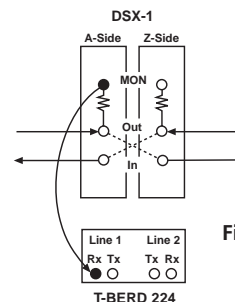

Figure 1
- Connect a cable from the T-BERD 224's **LINE 1 RX** jack to the DSX-1 A-Side MON jack (Figure 1).